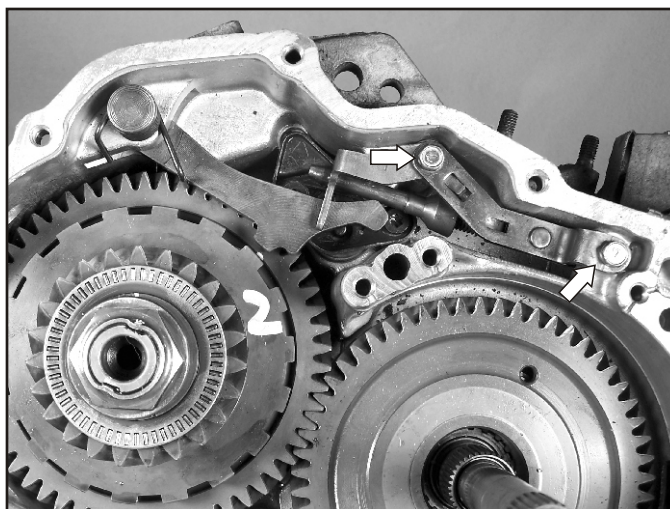
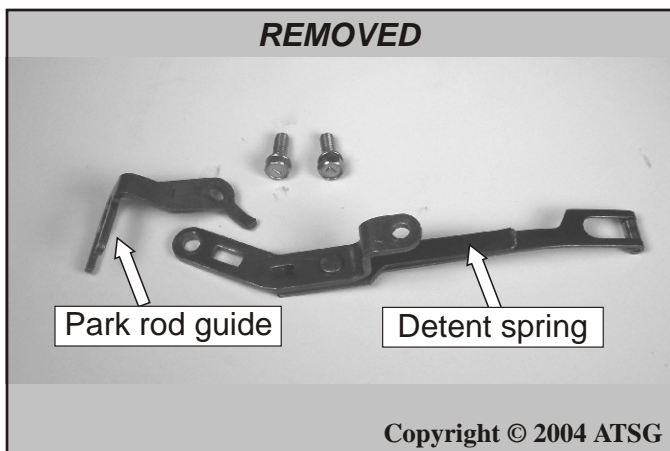

Figure 53
Figure 54
13. Remove the 2, 10mm headed detent spring retaining bolts, detent spring and park rod guide as shown in Figure 53. Refer to Figure 54 to see this assembly removed from the Case. *Note the bolt lengths are 15.5mm long.*